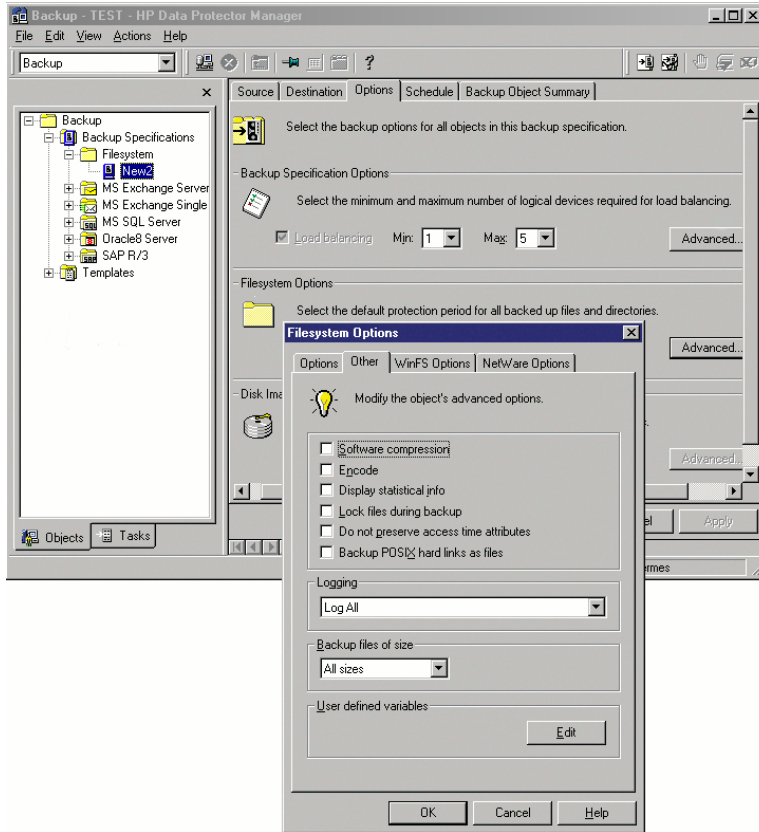

Figure 4 Specifying backup options
5. Select **Other** from the **Filesystem Options** window, and then click **Edit** under **User defined variables**. See Figure 4 on page 32.